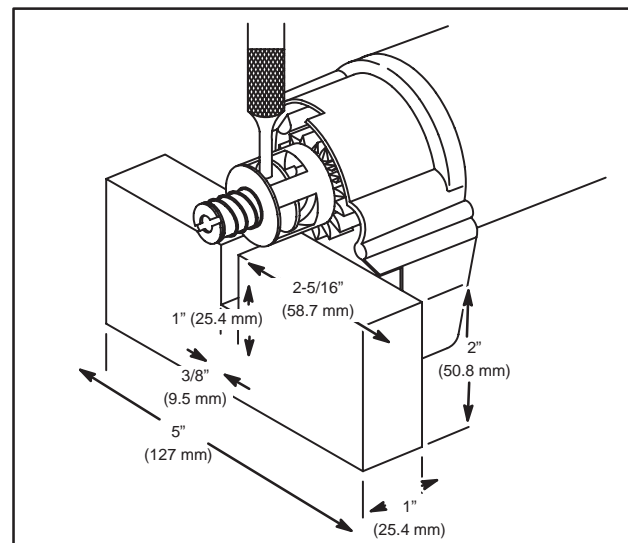

Fig. 18 – Disassemble Starter Drive Roll Pin Style
- Place starter drive retainer on support block, Fig. 18 and drive out roll pin with a $5/32$ " (4 mm) pin punch to remove starter drive retainer.
4. Press or drive NEW roll pin through retainer slot and hole in armature shaft, Fig. 18. Roll pin should be centered in armature shaft within 1/32" (0.8 mm).